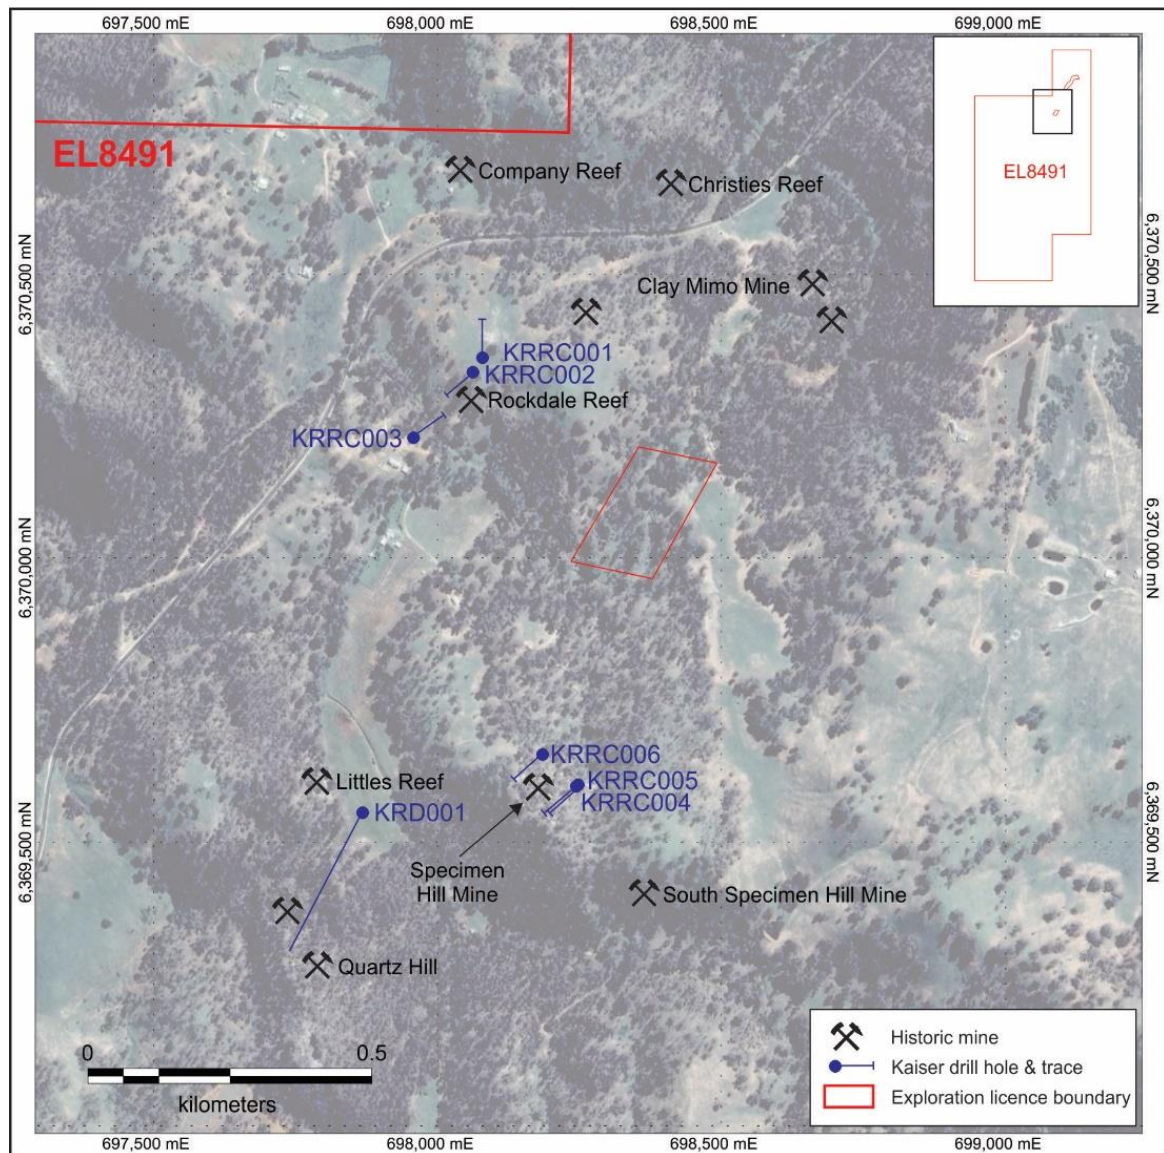

Figure 2: Plan view of initial drilling at the Stuart Town gold project.
The drilling, shown in Figure 2, consists of six reverse circulation (RC) drill holes for a total of 776 metres. The first RC hole, KRRC001, was directed beneath the historic Rockdale mine. The drillhole KRRC001 returned an anomalous gold result of 0.53 g/t gold over a 3-metre interval in a composite sample from 24m downhole. This intercept will be resampled as single metre intervals.